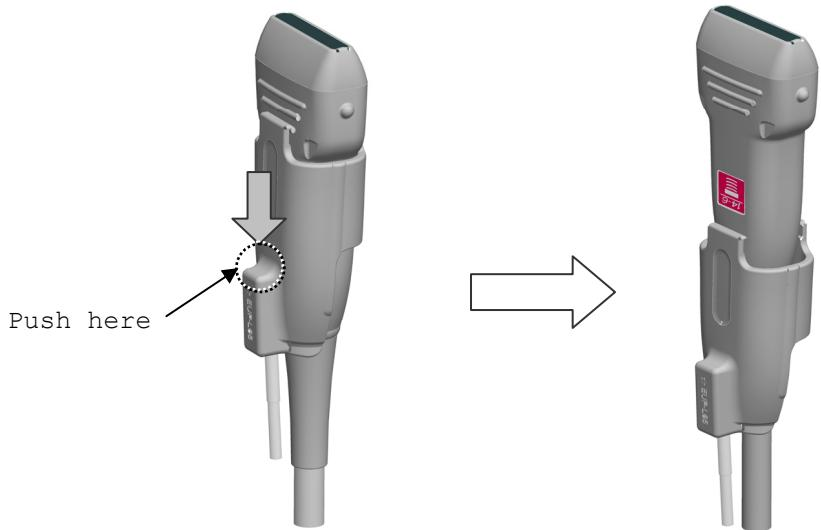

Fig. 11 How to release the Magnetic sensor attachment from the probe
- 1) Push the magnetic sensor attachment and release it from the probe as shown in Fig. 11.